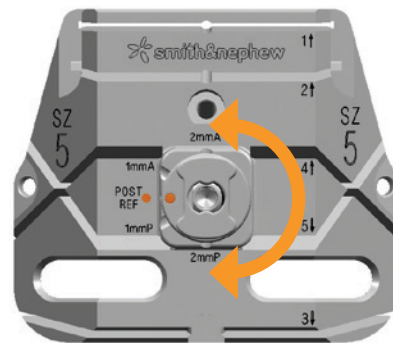

Figure 20
- 2 Use the Angel Wing to check the location of the anterior cutting slot. Make any necessary anterior/posterior adjustments (Figure 20) to avoid overstuffing the patella femoral joint, overstuffing the flexion space or femoral notching.